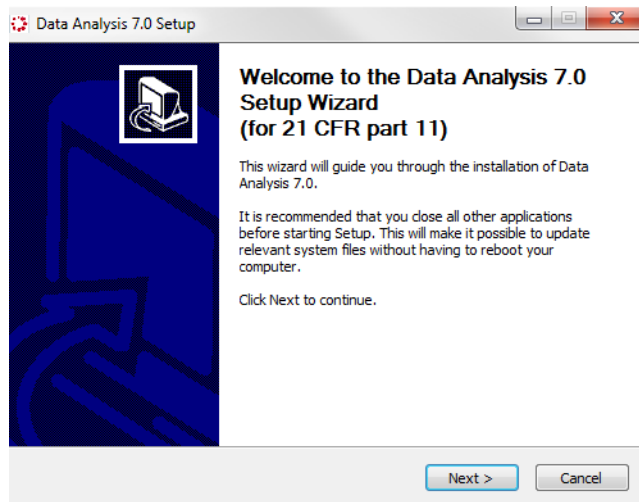

Figure B-5: Data Analysis (for 21 CFR Part 11) Software Setup Wizard
3. Double-click **DataAnalysis-CFR.exe** to launch the installation wizard (see Figure B-5).